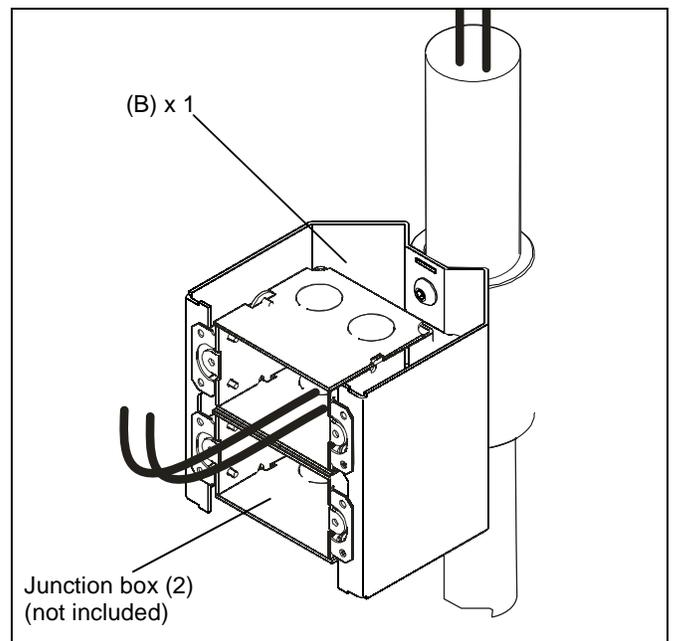

Figure 4
5. Align two mounting holes in each junction box with two upper mounting holes in mounting plate (B). (See Figure 4)
6. Route wires through 1-1/2" NPT pipe, through hole in front of coupling (A) and into junction box. (See Figure 4)